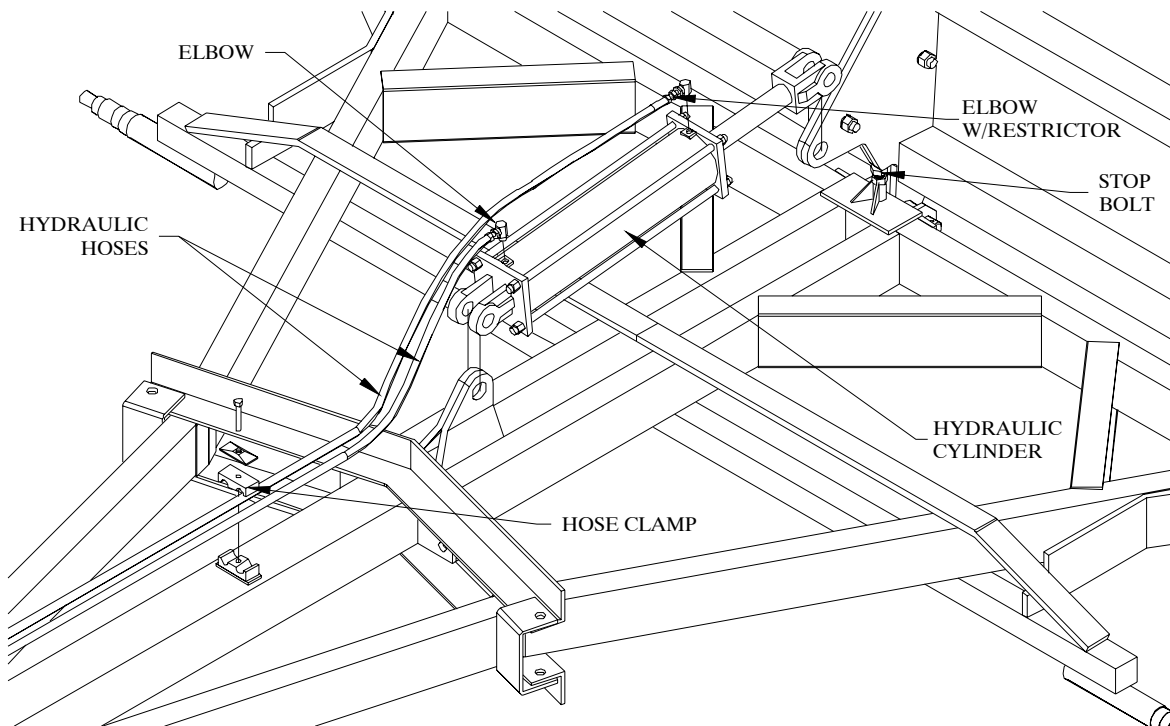
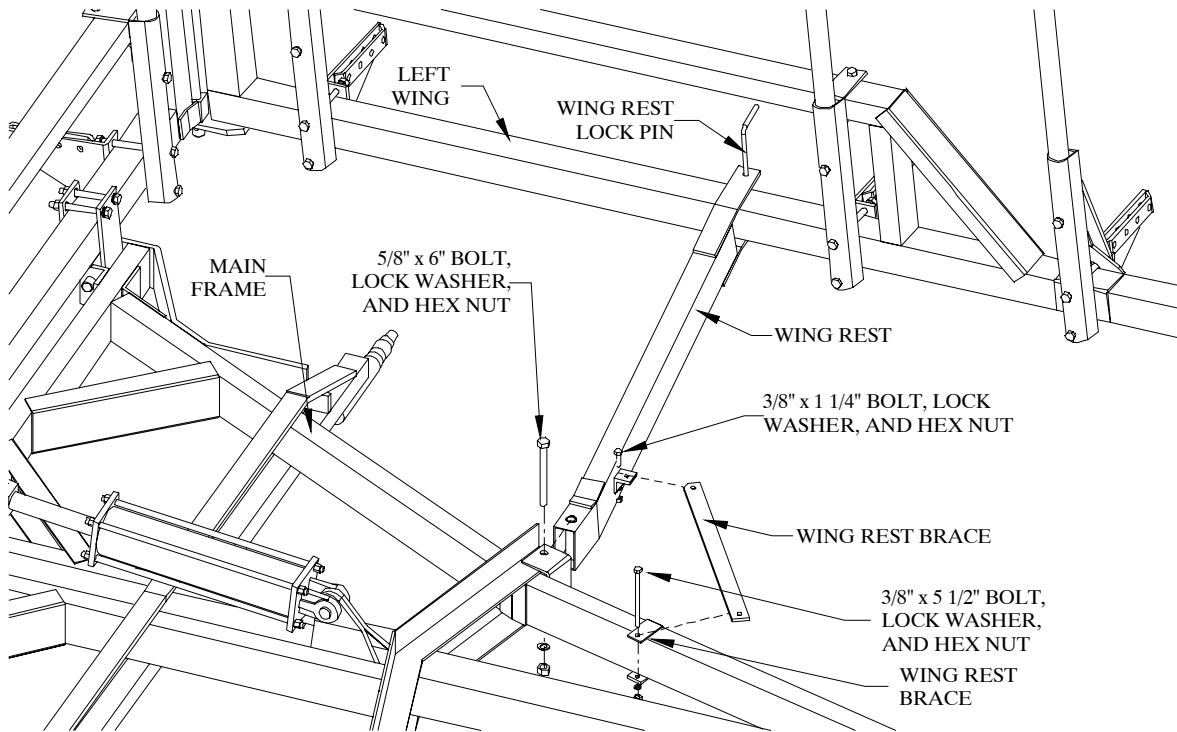

Figure 4
Figure 18
1. Install the hydraulic cylinder as shown in Figure 4. Use the clevis and bridge pins that come with the cylinder.
1. Refer to figure 18 below. Wrap the 16-link lift chains around the second to last cross piece below and in front of the end of the lift tube and feed the chain back through the large 1-1/2" ring at the end of the chains.
5. Adjust the stop bolt (shown in Figure 4 on page 15) so that when the wings are swung forward, they hit the wing rest landings as shown in Figure 18.